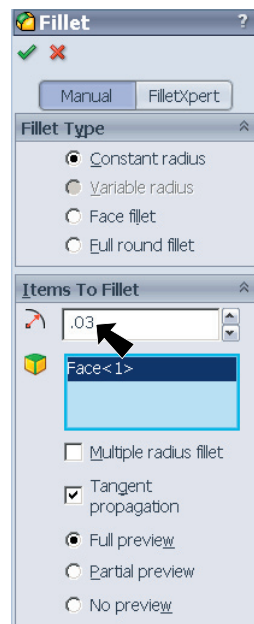

Fig. 5
- Step 3. Set the **Radius**  to **.03** in the Fillet Property Manager and click OK , **Fig. 5**.